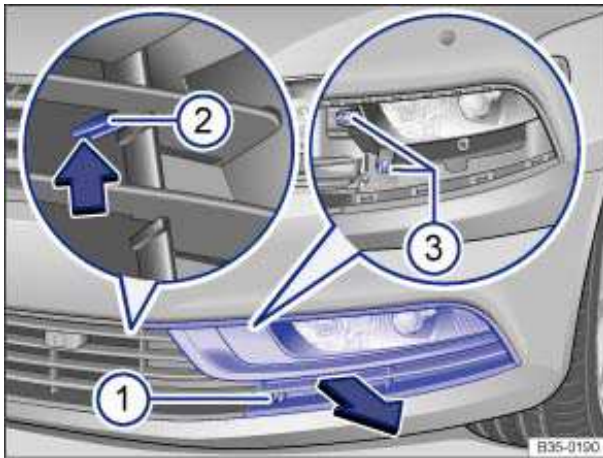
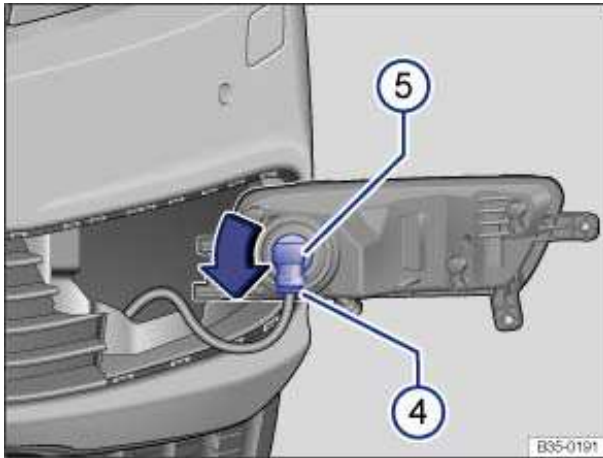

Fig. 188 In the left front bumper: Fog light.
Fig. 189 In the removed light: Replacing the bulb.
2.	Remove the screw ⇒ fig. 188 (1) using the screwdriver from the vehicle tool kit
3.	Press the tab (2) upward in the direction indicated by the arrow to release the retainer.
5.	Remove the screws (3) using the screwdriver from the vehicle tool kit.
7.	Release the connector ⇒ fig. 189 (4) and disconnect it.
8.	Turn the bulb (5) counterclockwise until it stops and then remove.
10.	Insert the bulb (5) in the housing and turn clockwise until it reaches the original position.
12.	Connect the connector (4) on the bulb so that it clicks into place.
14.	Install the screws ⇒ fig. 188 (3) .
15.	Insert the cover in the bumper opposite the direction indicated by the arrow . The tab (2) must lock in place.
16.	Install the screw (1).